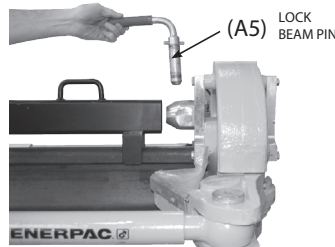

FIG.2
4. Remove the beam lock pin **{(A5) IN FIGURE 2}**.